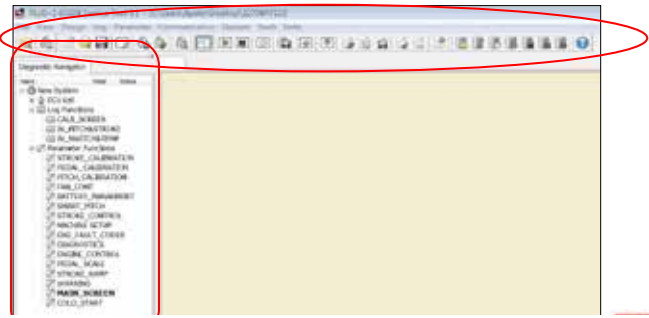

Figure 13. WST Tool Bar
- The new screen will have both navigation and tool bars active (Figure 13.)